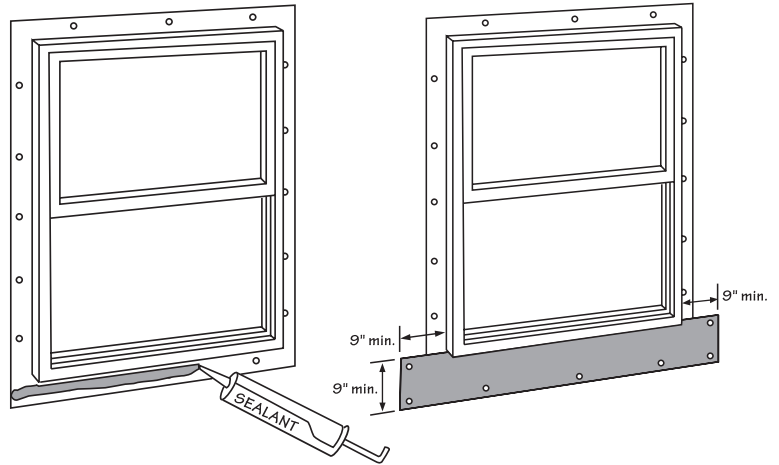

Figure 30.
- Apply a continuous bead of sealant adjacent to the sill of the existing window. For windows with nailing flanges, the sealant should be applied to the nailing flange in a manner that covers the nails and nail slots. Apply a minimum of 9" wide horizontal sill flashing level with the bottom edge of the existing window by pressing the flashing into the sealant bead at its top edge. Cut the sill flashing long enough to extend a minimum of 9" beyond each jamb. Fasten the sill flashing at the bottom and side edges (Fig. 30).